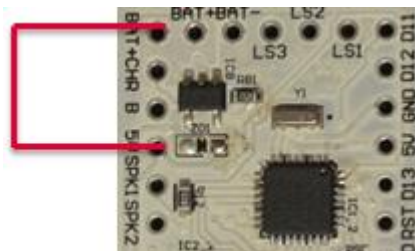

FIGURE 1: PREPARING THE BOARD FOR PROGRAMMING VIA USB
1. Connect the BAT+ signal to the 5V signal (see Figure 1)